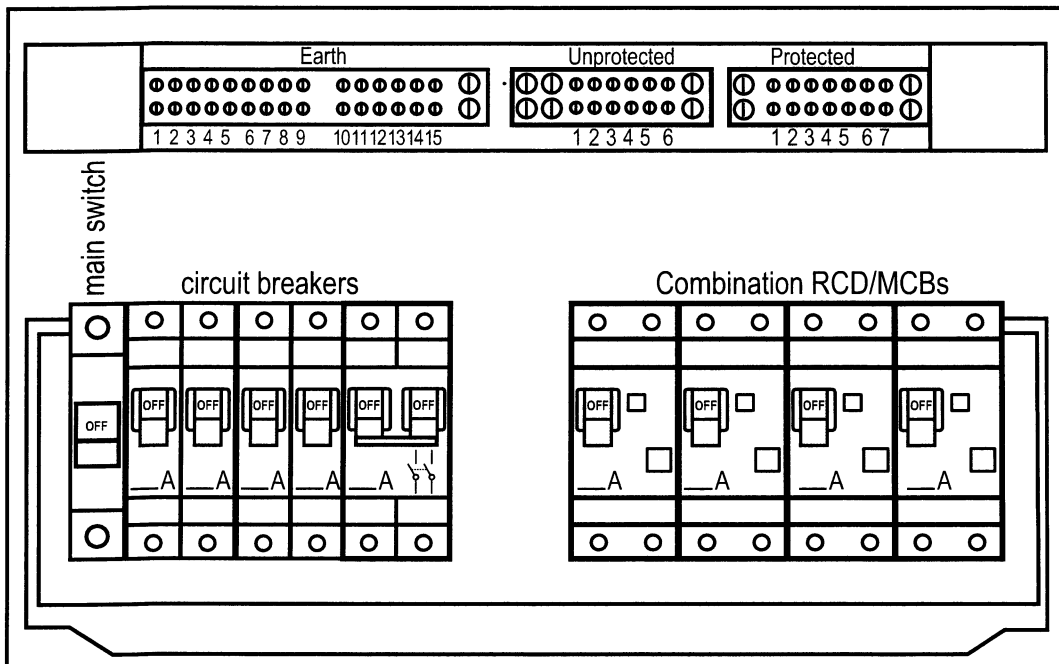

Figure 9.1
- Complete Figure 9.1 for the single domestic installation by drawing all necessary Active, Neutral and Earth connections and using the wiring system selected in Student Exercise 9.7 and detailed in Appendix A. Separate two-pole combination RCD/MCBs protect all light and power circuits.